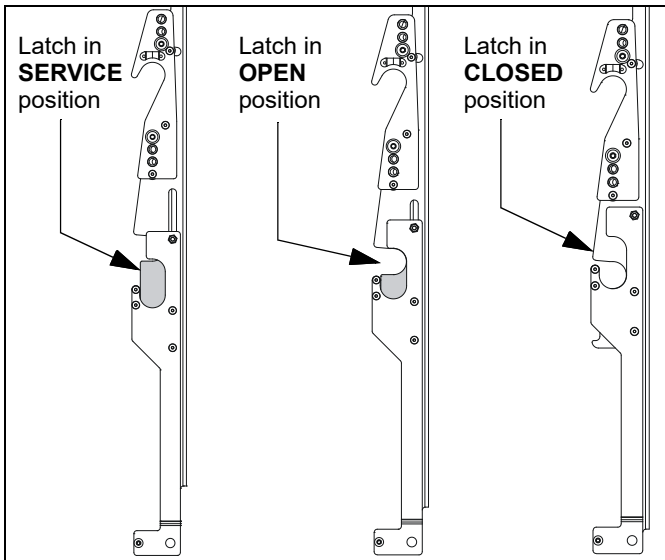
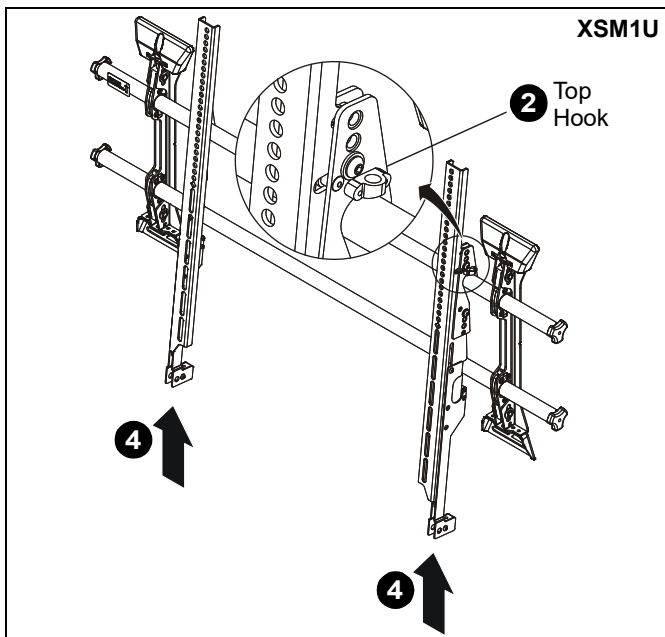
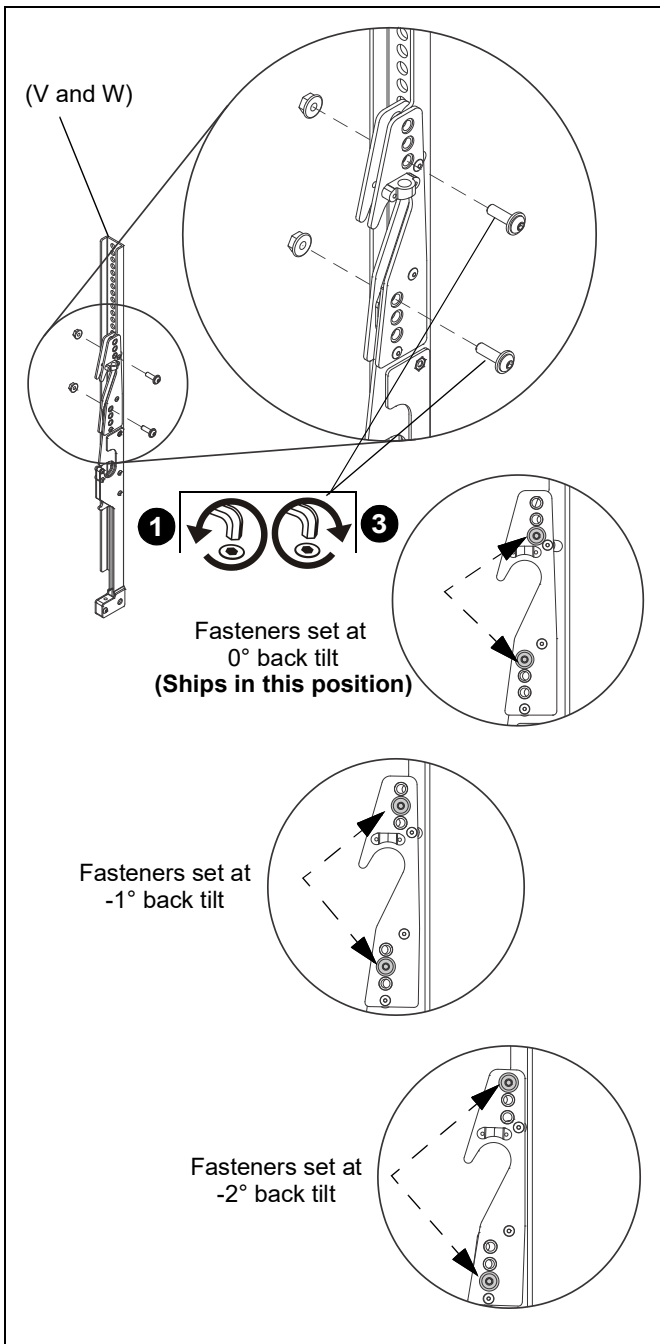

Figure 16
Figure 17
Figure 23
IMPORTANT ! : (XSM1U Only) Completely extend bottom of interface brackets (by pulling downward) to set interface brackets in **SERVICE** position before hanging on top rail. (See Figure 16)
2. Hang screen onto the top rail of the mount (Z). (See Figure 17)
- **XSM1U:** Hang top hook of interface brackets (V and W) onto the top rail of the mount (Z). (See Figure 17)
- **XTM1U:** Move latch on top of interface bracket to **OPEN** position and hang top hook of interface brackets (X and Y) onto the top rail of the mount (Z). (See Figure 17)
- **XSM1U** - Open latch by pushing bottom of interface bracket up to **OPEN** position, latching interface brackets to lower rail, and then push up from bottom of interface bracket again until the interface bracket is in **CLOSED** position. (See Figure 16) and (See Figure 17)
- **XTM1U** - Pull downward on the pull cords and swing inward toward mount, latching interface brackets to lower rail and fastening bottom of screen to the mount. (See Figure 17)
5. **XTM1U Only:** Attach end of pull cord (a magnet) to mount so it does not extend beyond bottom of screen. (See Figure 17)
NOTE: The interface brackets (V and W) ship in the 0° tilt position. (See Figure 23)
1. With interface brackets in **CLOSED** position (See Figure 16), remove two fasteners holding tilt compensation in place on each interface bracket (V and W). (See Figure 23)
2. Adjust interface bracket for -1° or -2° back tilt, as required. (See Figure 23)
3. Tighten two fasteners (removed in Step 1). (See Figure 23)